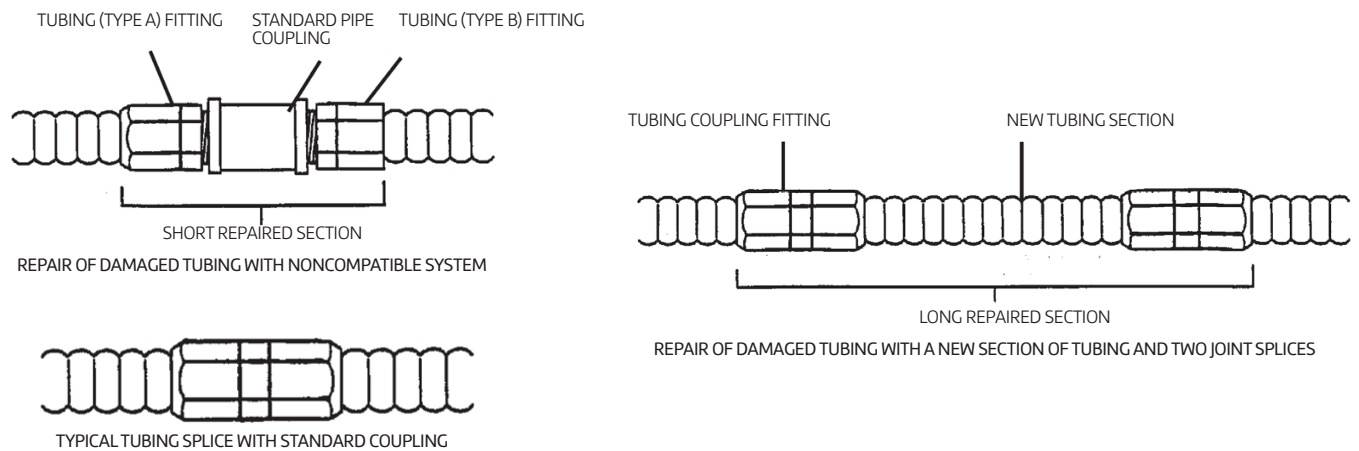

Figure 6.4    REPAIR METHODS
**Method 2:** Remove the section of tubing which is damaged and repair/replace as illustrated in Figure 6.4.